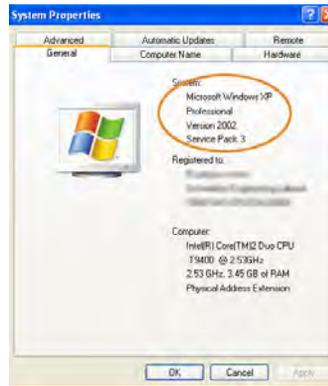

Figure 11 Microsoft Windows XP System Information
- Step 1. Click the **Start** button (if you do not have a rectangular **Start** button on the screen, use the instructions following *Figure 11*).
- Step 5. You should now see a window similar to *Figure 11*. Verify that the listed operating system and service pack meet the minimum requirements listed on the cover of this guide. ACSELERATOR RTAC software has been tested and verified for installation only on those operating systems.